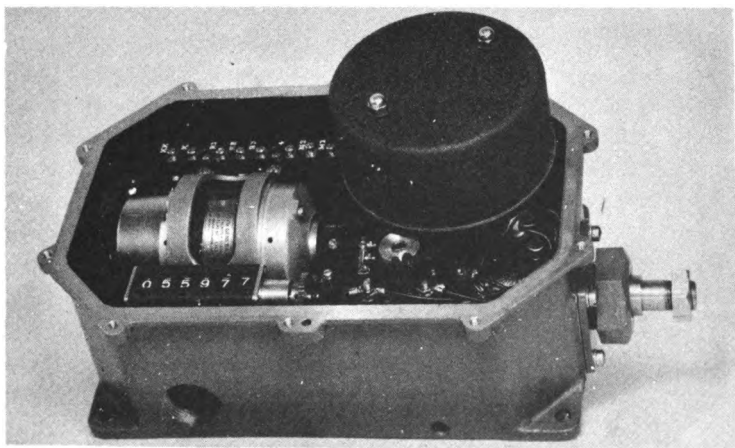

Figure 293. — Shaft transmitter (cover removed) with vertically-mounted magneto and counter.
Many vessels today use the electromechanical type revolution counter, consisting of an electrically operated counter mounted separately or in the same dial case with a speed indicator. These counters have self-synchronous rotary transmitters and motors which are energized from the ship's 110 volt 60 cycle electrical supply. They consist of (1) a propeller shaft transmitter (see figure 293) with a magneto (2) a permanent magnet